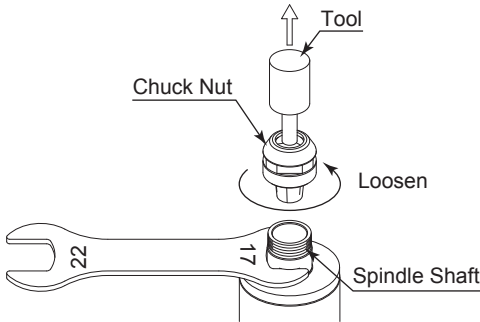

Fig. 4
- ① Remove the tool according to the section " 5. CHANGING THE TOOL " procedure above and remove chuck nut assembly (Fig. 4).